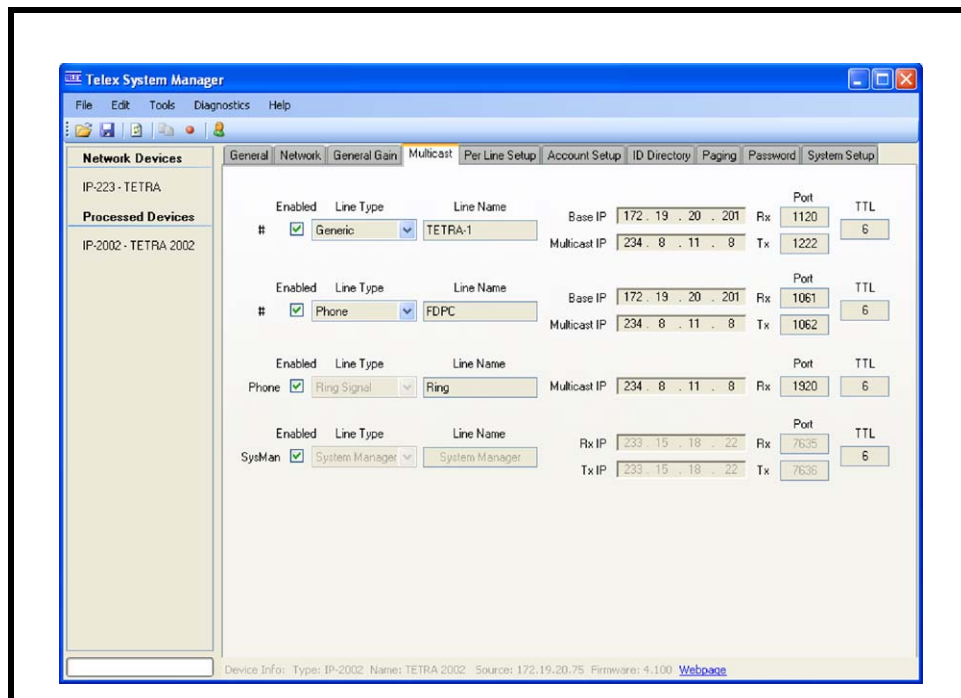

FIGURE 15. Multicast Page—IP-2002
Multicast is used to configure the console to communicate with the IP-223. A standard Radio/TETRA configuration on line 1 is shown in Figure 15.
If access to FDPCs are required, a second phone line must be configured, see Figure 15.
**NOTE:** Telex System Manager's access to the IP-2002 is also enabled on this page, see Figure 15